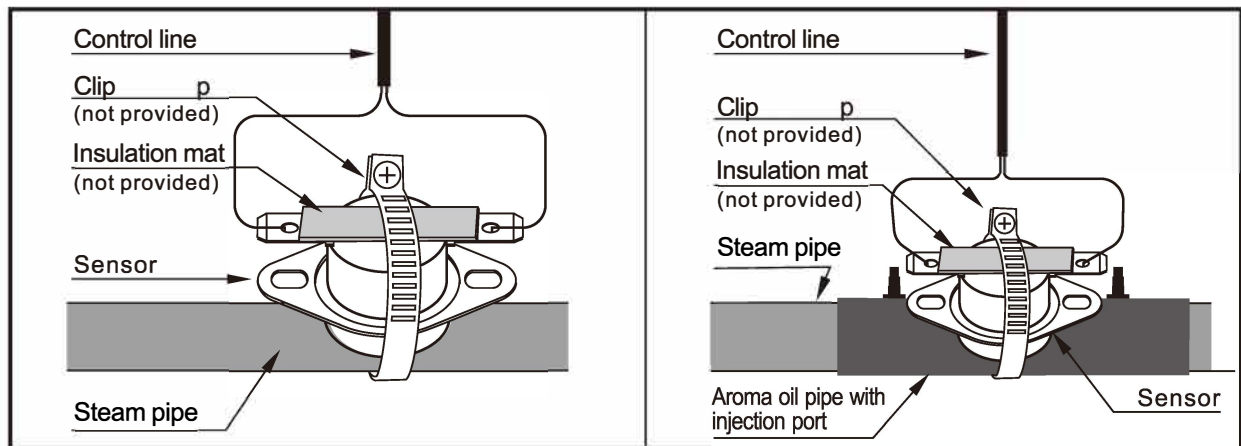

Figure 4
1. Fix the temperature controlled switch in a proper position with a jubilee clip on the steam pipe or on the aroma oil pipe with injection port as the figure 4 (being careful not to over tighten).
2. As shown in Figure 4, add an insulation mat on the temperature controlled switch firstly, and then fix the temperature controlled switch on a steam pipe with a jubilee clip.